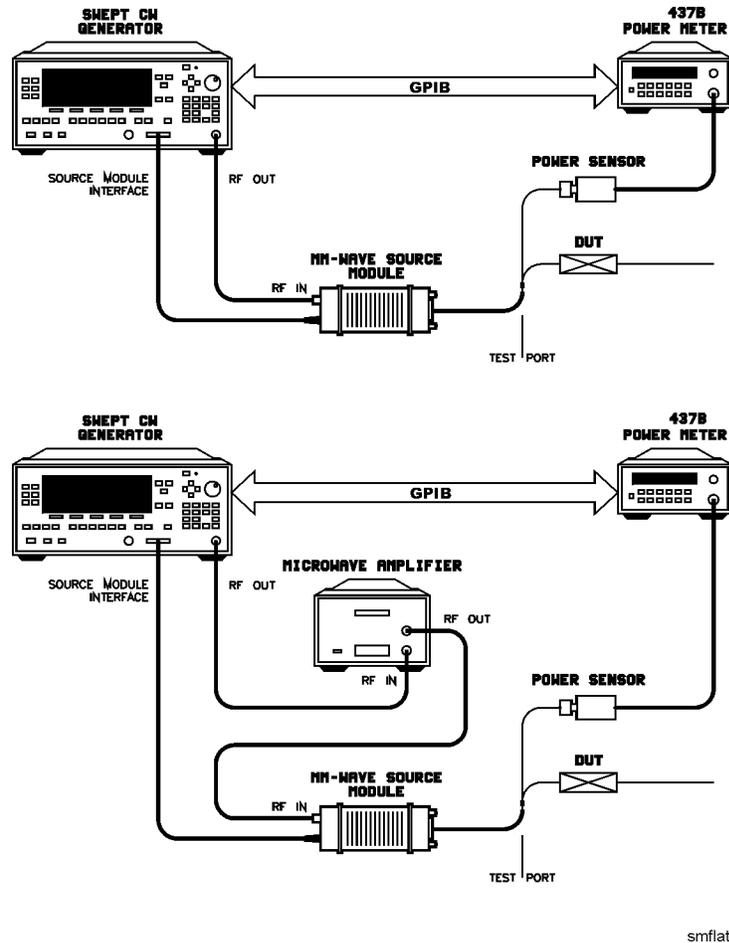

Figure 1-20.
1. The equipment setup shown in Figure 1-20 assumes that you have followed the steps necessary to correctly level the configuration. If you have questions about external leveling, refer to “Externally Leveling the Swept CW Generator”.